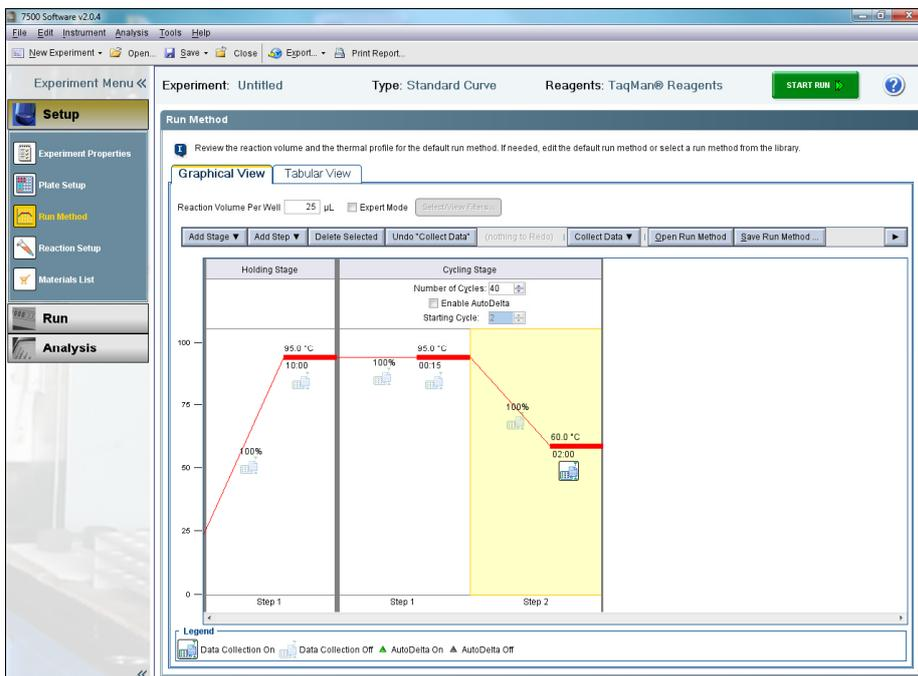

Figure 2. Run method.
6. Under "Setup", select "Run Method" menu (Figure 2). Enter "25 μ L" for "Reaction Volume Per Well". Adjust parameters as follows: